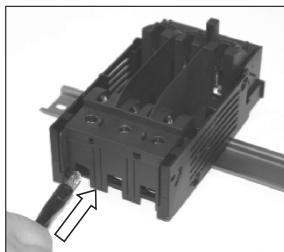

Figure 14
- Insert the conductors into U-shape clamp (Figure 14);
- Fix the conductors to the clamp (Figure 14);